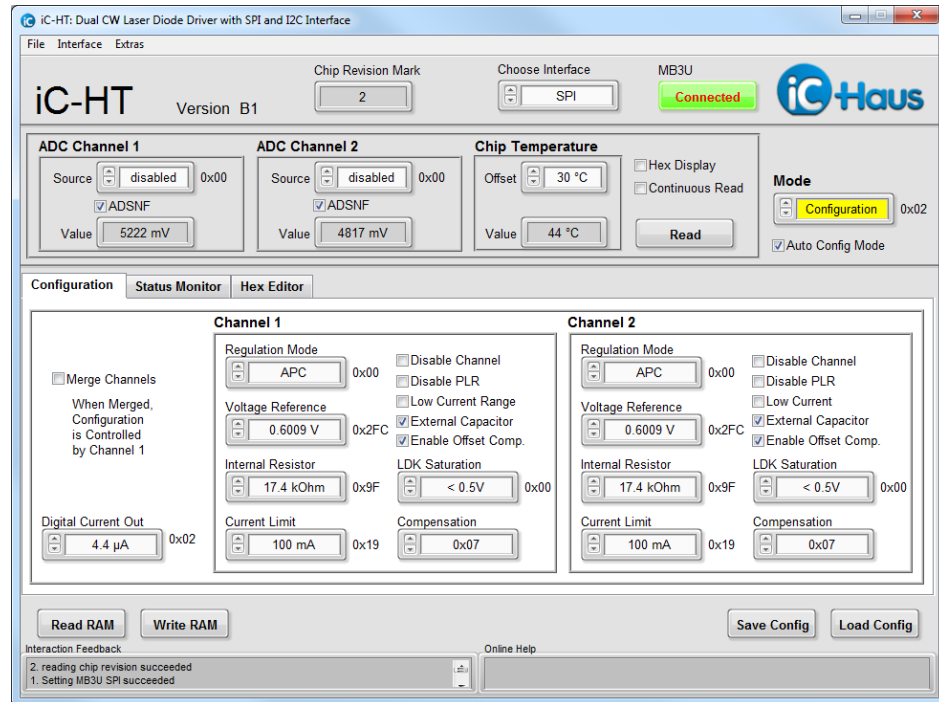

Figure 4: iC-HT evaluation software
3. After installation the executable HT1SO_gui_xx.exe will be available in the selected working directory. Figure 4 shows a screenshot of the evaluation software.